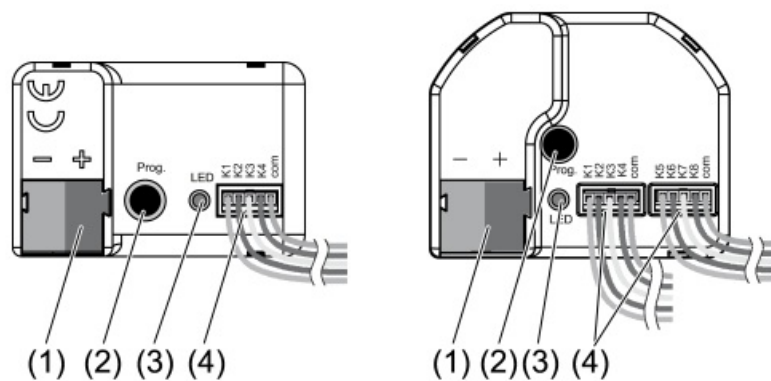

Figure 1: Device components
- Connect the bus with a KNX device connection terminal to the KNX connection (1)(see figure 1).